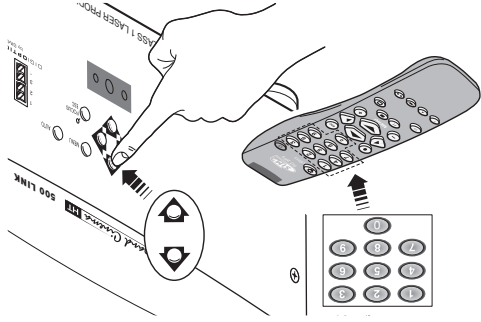

Fig.14
Switching on the system (Fig. 14):
4) Switching on the system (Fig.14):